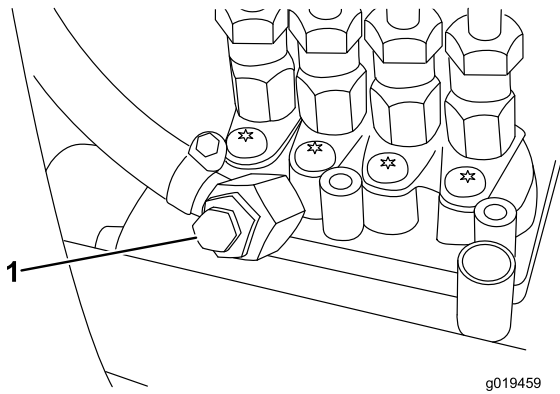

Figure 36
5. Open the air bleed screw on the fuel injection pump (Figure 36).